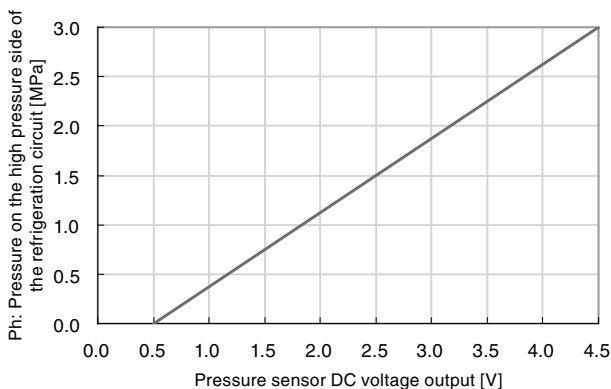

Fig. 4-8 Refrigerant circuit pressure sensor (for high pressure) analogue output
- (1) Check the “Ph: Refrigerant circuit pressure on the high pressure side” value in the “Check Monitor Menu”.
- (2) Check voltage by contacting the probe of the tester directly to the connector external surface with the “CN4” connector of the main board being inserted.
- (3) Contact the positive probe to the pin number 11 and contact the negative probe to the pin number 10 of the “CN4” connector.
- (4) Check that the voltage between the pin number 11 and the pin number 10 is in the same relationship shown in Fig. 4-8. (Accuracy: $\pm 5\%$)
- (5) If the voltage is in the same relationship as the graph shows, it means that the main board is operating correctly.